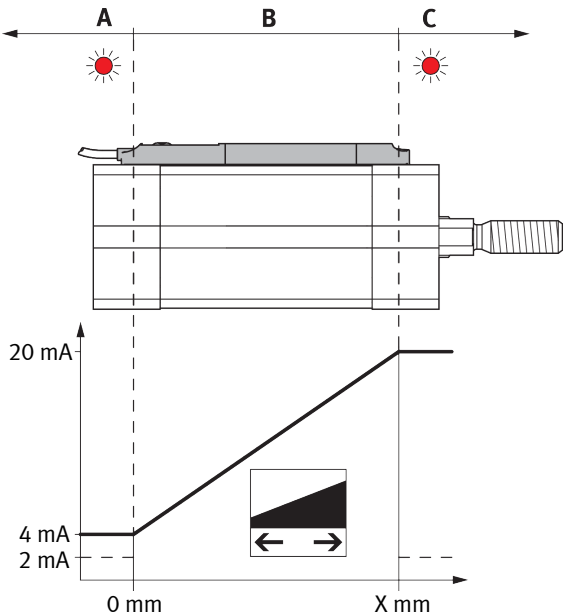

Fig. 2: Characteristic curve of the analogue output
1) Range Fig. 2, range A and C: red LED on